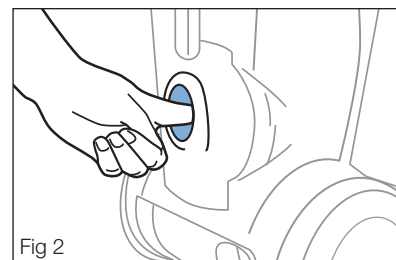

Fig 2
- Use fingers to check for debris in bottom of unit (Fig. 2).